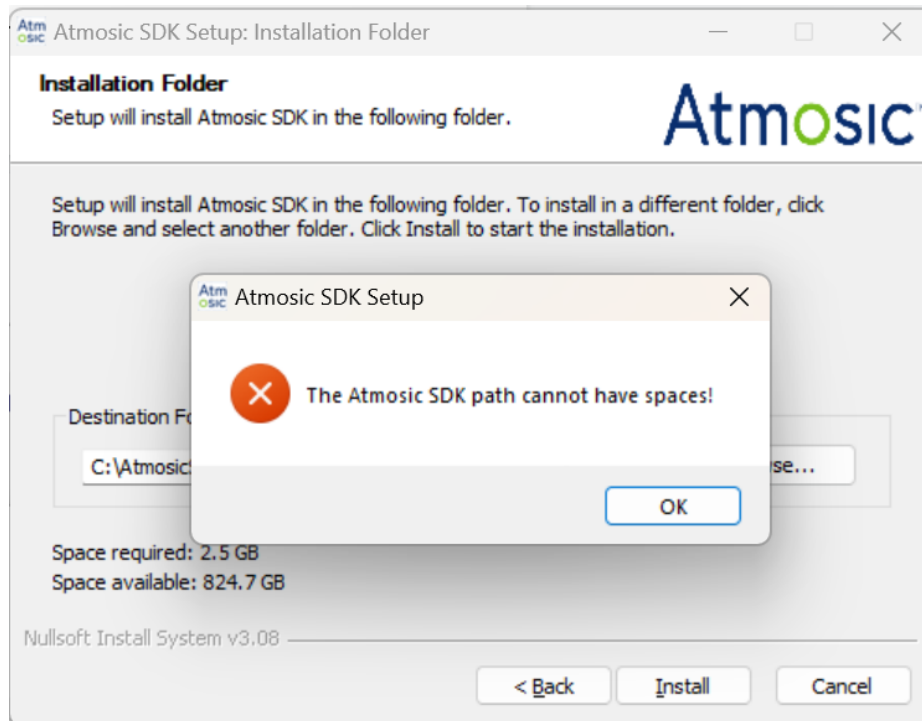

Figure 4 - SDK Installation Path Message
- Figure 4 - SDK Installation Path Message
Note: The installer cannot accept a path destination directory name with spaces. For example, *Atmosic SDK* is not acceptable while *AtmosicSDK* is acceptable. The Windows Installer will pop up a message if the user selects an installation path name that includes spaces. See Figure 4.